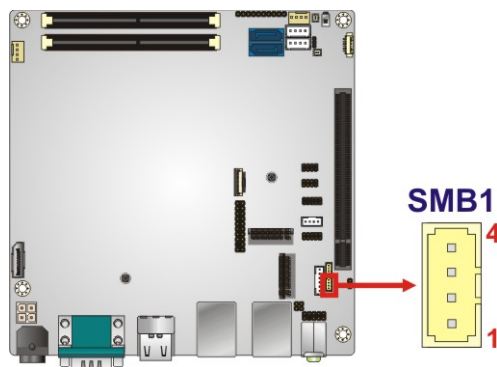

Figure 3-25: SMBus Connector Location
- CN Location:** See **Figure 3-25**